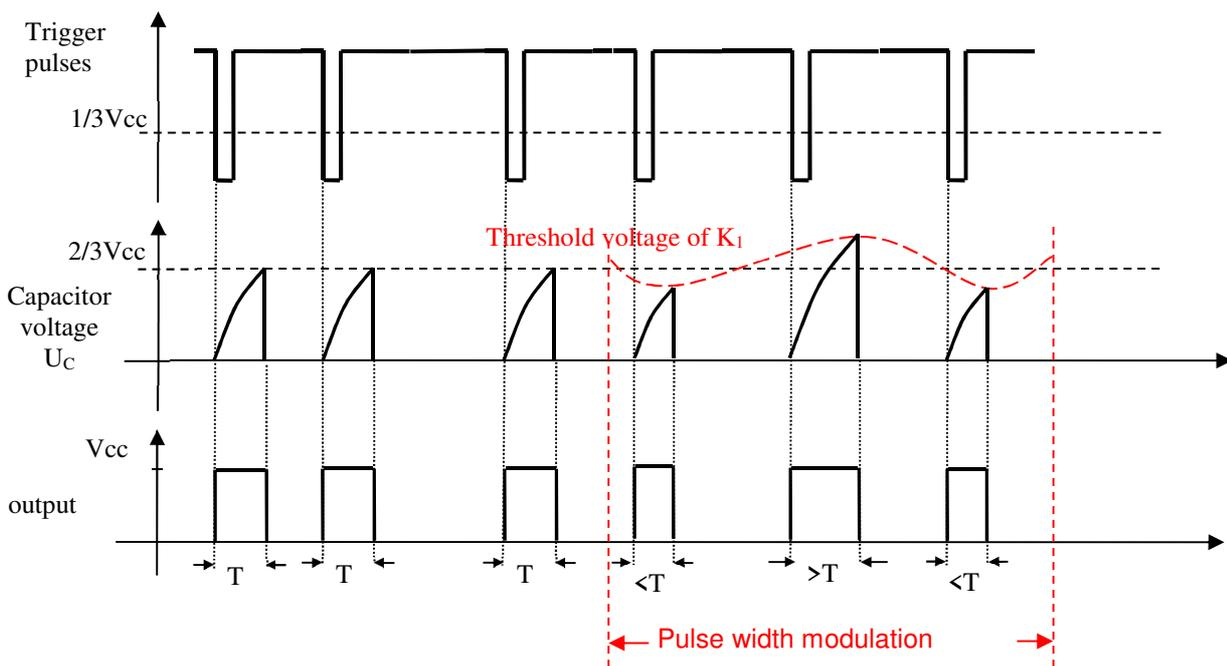

Fig. 3. Waveform in monostable flip-flop without and with modulation.
In Fig. 3 an examples of system waveforms are shown in the input control MOD_AC .
If the system is working properly on the scope are seen waveform as in the Fig. 3. If not, turn off supply and check the circuit
1. Observe and print screenshots of the oscilloscope of the output waveform and the voltage on the capacitor C (as in Figure 3 - without modulation). Compare the results with those calculated and obtained in the simulation, in particular, read the threshold voltages of the comparators.
to 20 times lower than the frequency of the system). If everything works correctly, the waveforms shown in Figure 3 (for modulation) can be observed on the oscilloscope. If the waveforms are not synchronized, the image on the digital oscilloscope can be stopped. The screenshot should be printed.